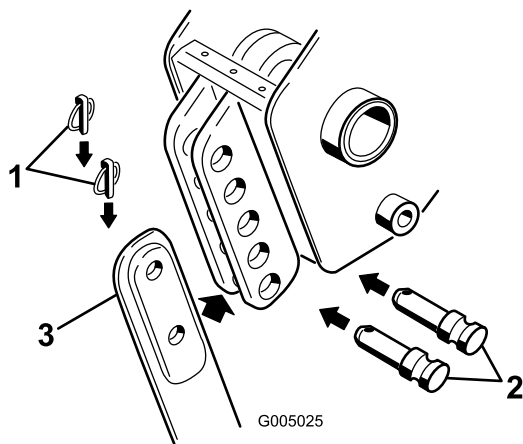

Figure 5
**Note:** To completely remove the blade, remove both the upper and lower lynch and clevis pins; refer to Figure 5.
4. Remove the 2 lynch pins from the clevis pins in the blade bracket, then remove the clevis pins (Figure 5) and the existing blade (if installed).
- Slide the new blade into the blade bracket and secure it at the desired depth (a change in mounting holes changes the depth by 7.6 cm (3 inches), using the clevis pins and lynch pins removed previously (Figure 5).
- Note:** To completely remove the blade, remove both the upper and lower lynch and clevis pins; refer to Figure 5.